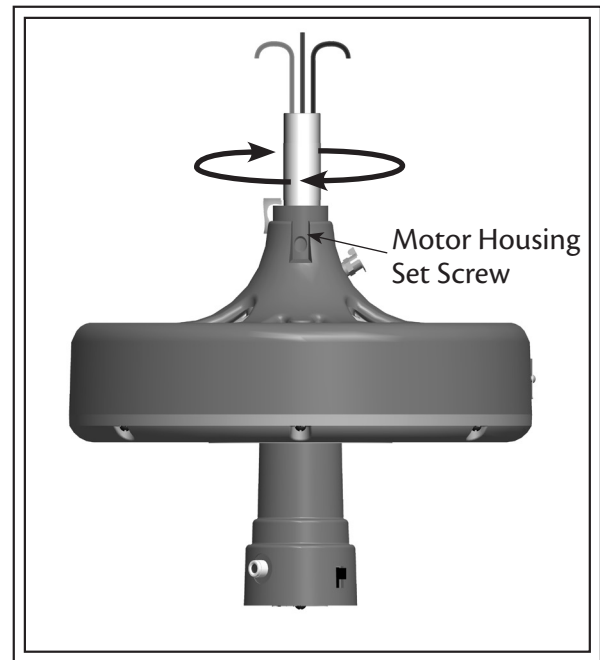

Fig. 4
3. Screw the pipe into the fan until tight (at least 4 1/2 turns) (see Fig. 4).